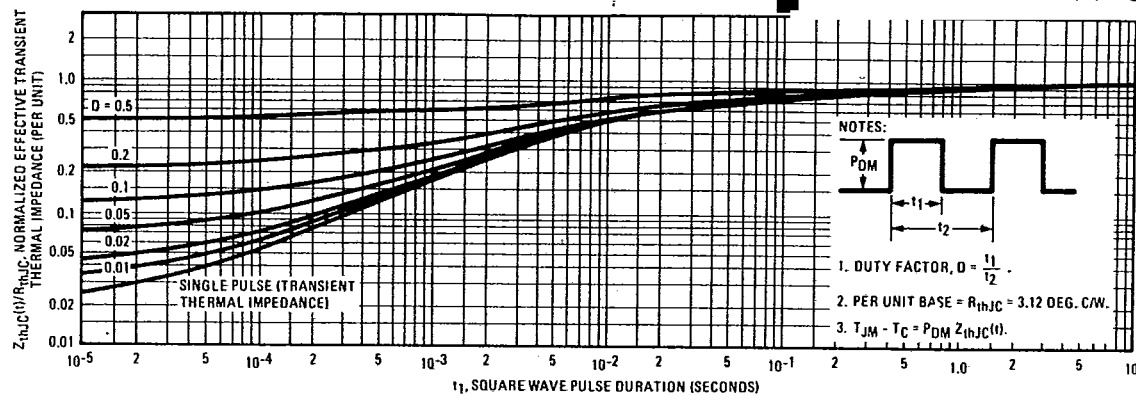

Fig. 5 - Maximum Effective Transient Thermal Impedance, Junction-to-Case Vs. Pulse Duration
- ① $T_J = 25^\circ\text{C}$ to 150°C . ② Pulse Test: Pulse width $\leq 300\mu\text{s}$, Duty Cycle $\leq 2\%$. ③ Repetitive Rating: Pulse width limited by max. junction temperature. See Transient Thermal Impedance Curve (Fig. 5).
- ④ $\text{K/W} = ^\circ\text{C/W}$